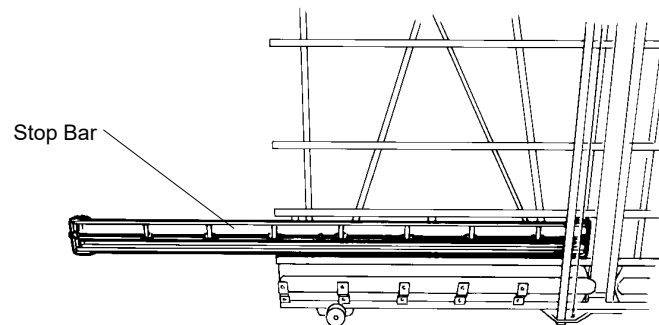

Figure 52: Installing the Stop Bar
1. Position the stop bar in the bottom left side of the frame as shown in Fig. 52, resting against the bottom horizontal arm and the vertical back supports.